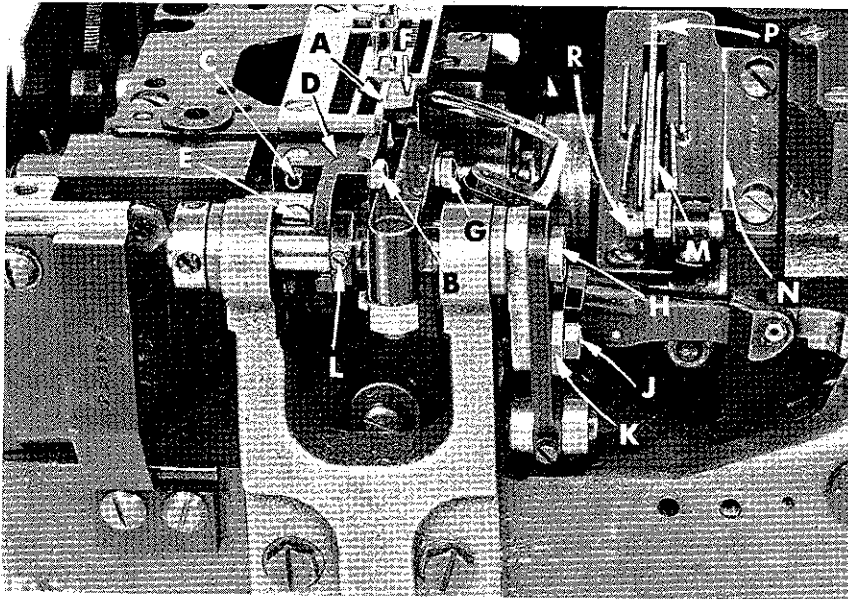
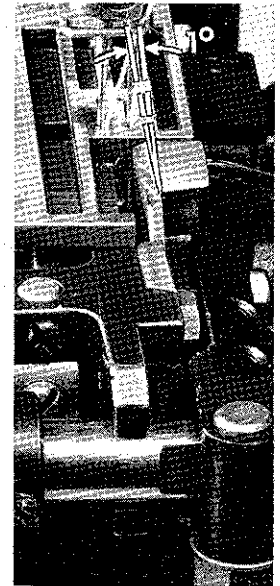

Fig. 18
Fig. 18A
The lower knife (A, Fig. 18) should be set with cutting edge flush with throat plate surface, at approximately a one degree shear angle (Fig. 18A). Adjustment can be made by loosening hexagonal head screw (B, Fig. 18) permitting lower knife to be moved up or down; loosening (2) screws (C) will allow positioning of lower knife block (D) to obtain the proper shear angle. Never loosen screw (E) for adjusting purposes, it should remain tight at all times. After adjustments are made, tighten screws (B and C) securely.
The upper knife (F, Fig. 18) should be set to align its cutting edge with the centerline of right needle and to engage lower knife for full cutting length. This can be accomplished by loosening screw (G) permitting upper knife to be moved forward or rearward; loosen screws (H and J) and turn eccentric (K) as required to obtain proper positioning for up and down movements. Retighten screws securely.
With upper knife in UP position, set and lock collar (L, Fig. 18) so it barely contacts lower knife block (D).
The looper thread take-up (M, Fig. 18) is not spotted on the main shaft and, consequently, can be set to compensate for varying conditions. It is set correctly when the looper thread is just cast off the highest lobe of the take-up when the point of the left needle is clearly visible below the underside of the looper. The cast-off plate assembly (N) is adjustable, and its setting determines the amount of thread pulled off by the take-up. Moving the cast-off plate assembly up towards the bottom of the screw slots causes more thread to be pulled from the cones, and moving the cast-off plate assembly down towards the top of the screw slots causes less thread to be pulled. The cast-off plate assembly is set correctly when the looper thread just becomes taut as the looper reaches its extreme position to the left. Additional looper thread control can be obtained by raising or lowering the retaining finger (P) which is secured by screw (R). The retaining finger should be centered in the take-up disc with its bottom edge set parallel to and approximately $\frac{3}{16}$ inch (4.76 mm) above cast-off plate assembly.